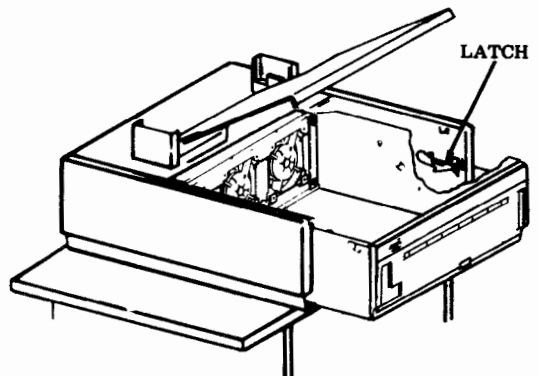

Fig. 22
Step 4 — Insert screwdriver under latch and lift up on latch. Lift up on module and slide forward (Fig. 22).